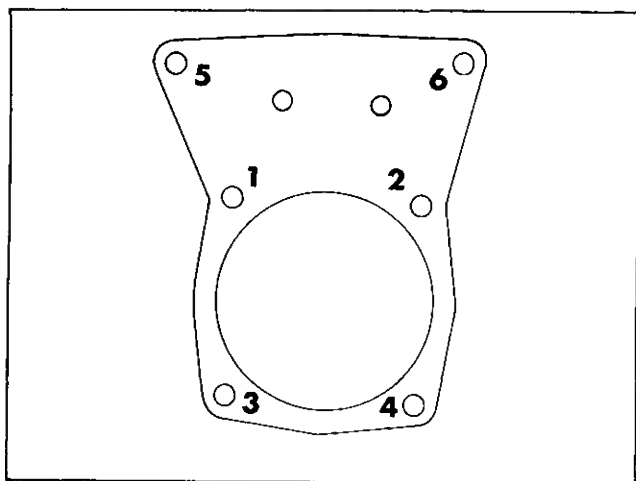

Figure 8-24. Barrel Nut Tightening Sequence
- Slide cylinder barrels onto crankcase studs and secure barrel to crankcase with six 3/8" lock washers and six 3/8-16 hex nuts. Torque number 1 and number 2 nuts to 100 in. lbs., then tighten the remainder of the nuts using the sequence shown in Figure 8-24. When this is complete, torque all the nuts to 360 in. lbs. following the recommended sequence.